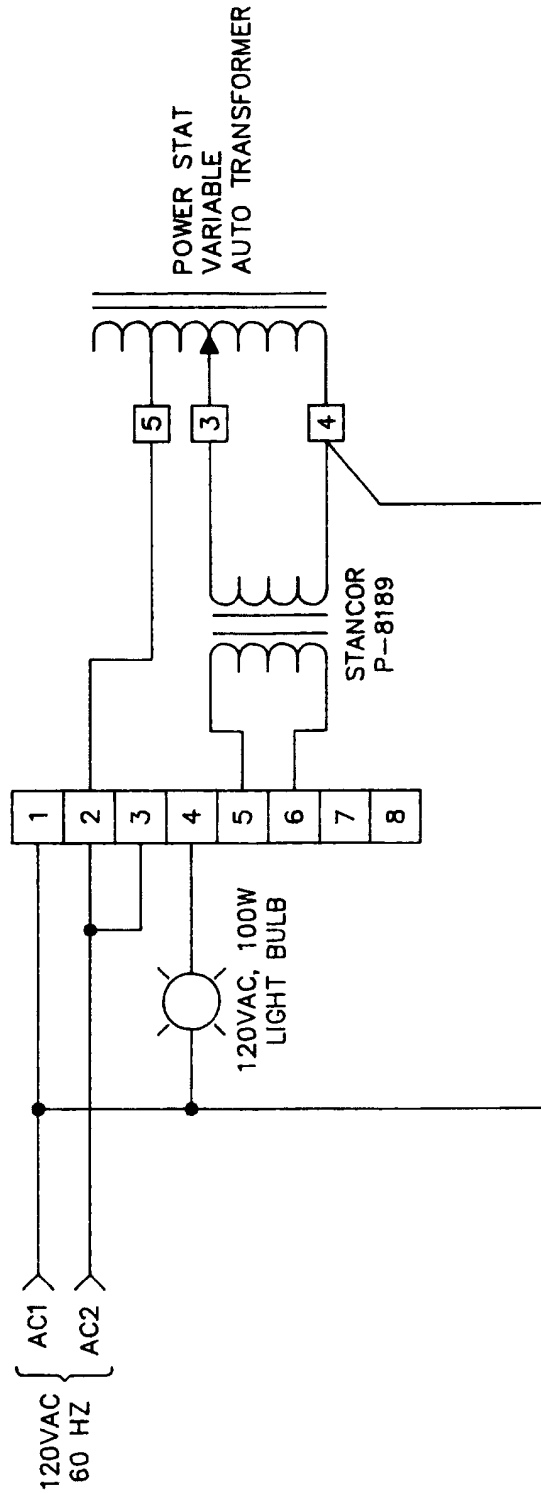

Figure 5-15. Overcurrent Sensing Device Test Connection Diagram
- three phase Overcurrent Sensing Device test fixture (see figure 5-15).
Power requirements: 120 VAC as shown in figure 5-15.